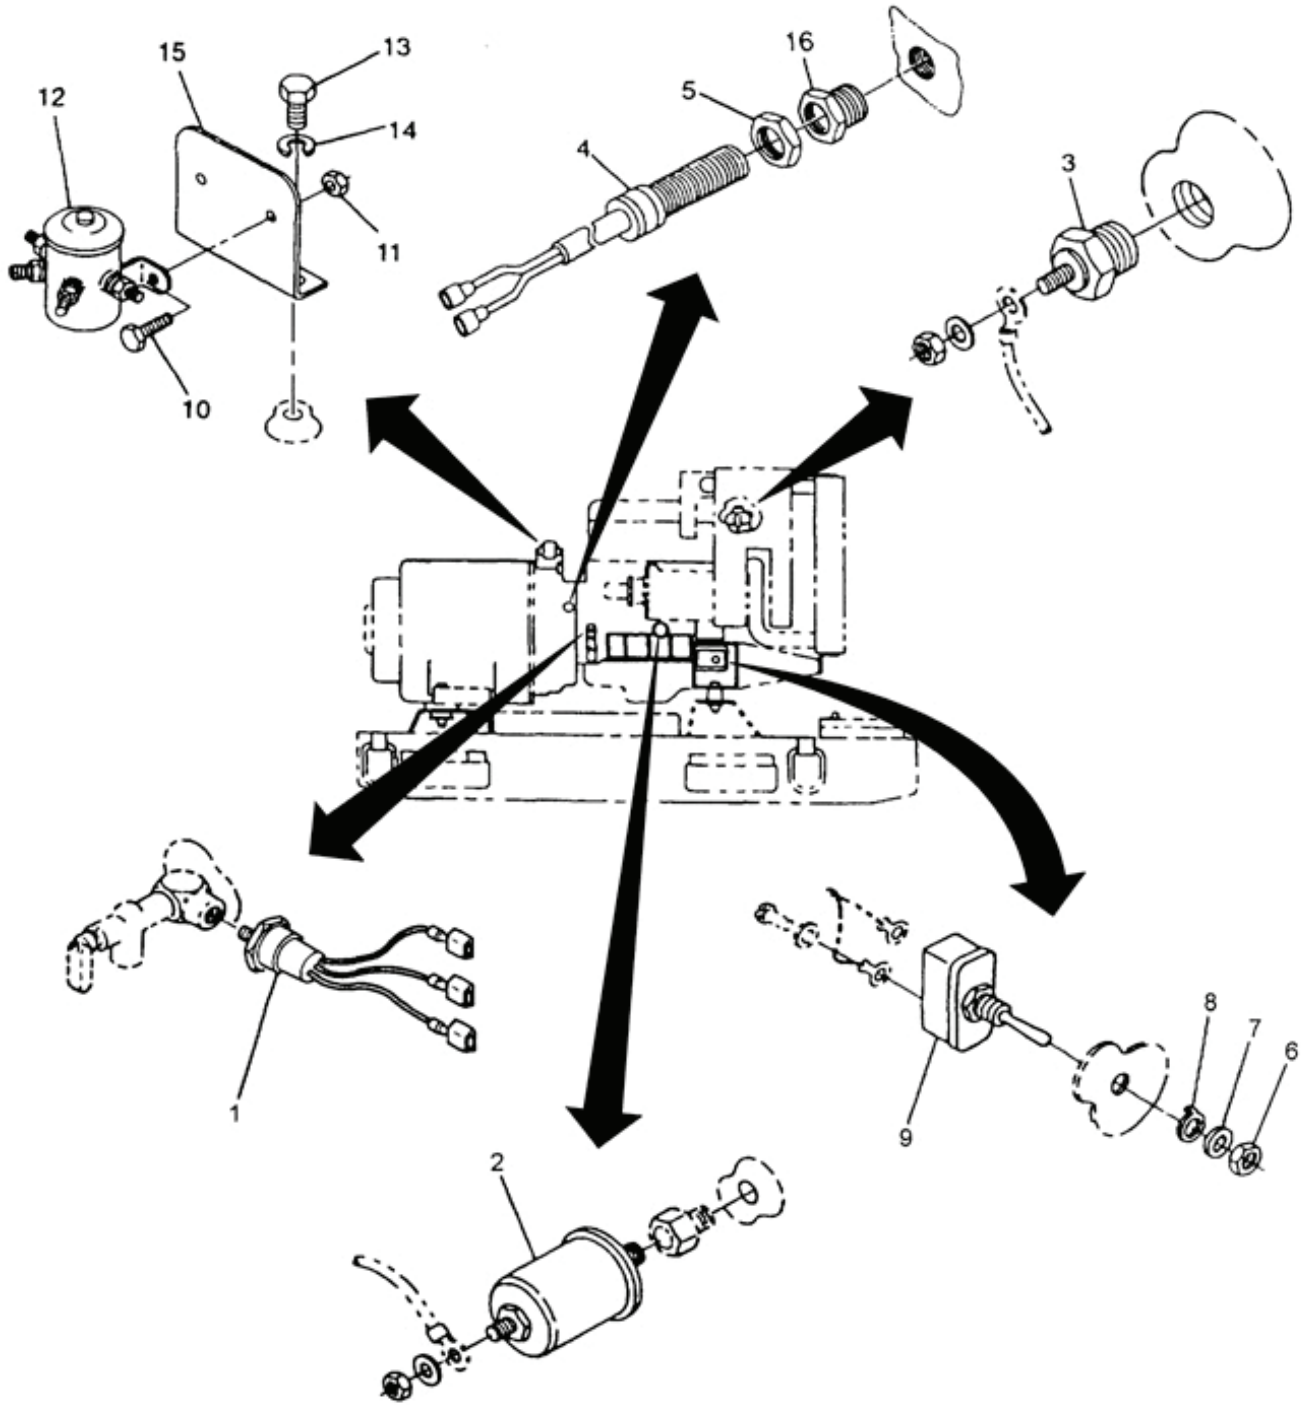
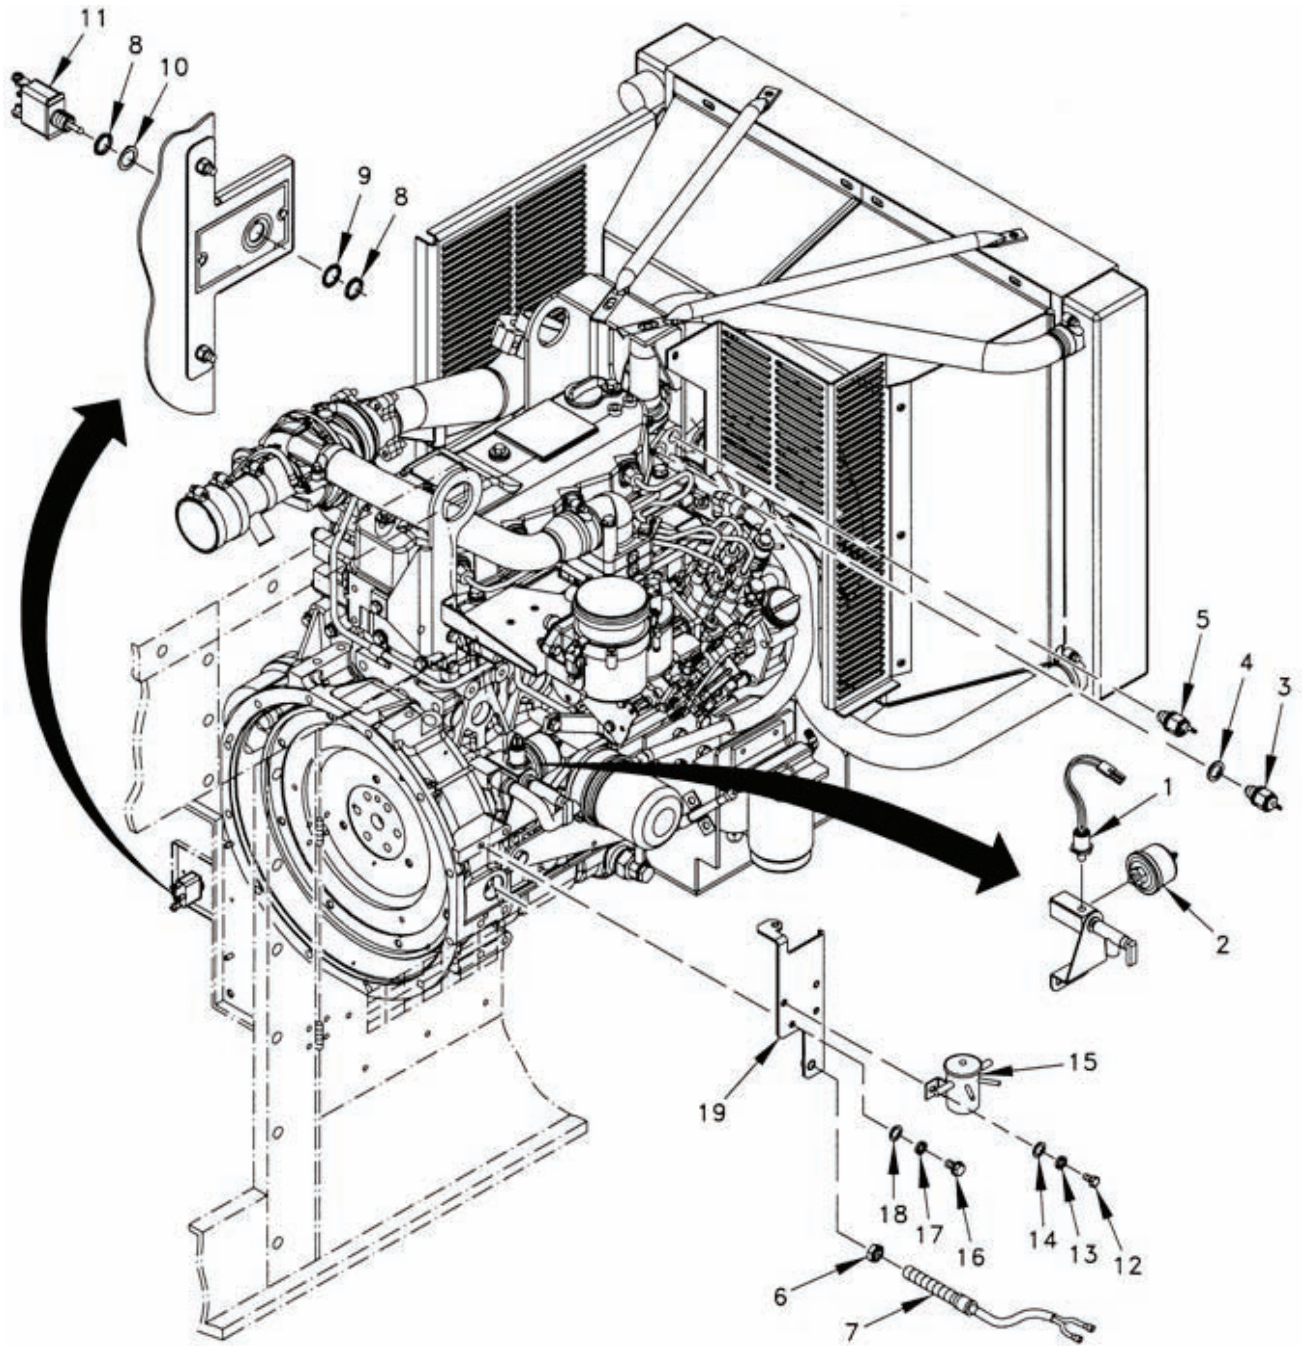

Figure 2-35. Right Side Engine Switches and Senders – MEP-804A/MEP-814A.
Figure 2-36. Right Side Engine Switches and Senders – MEP-804B/MEP-814B.
- c. Tag and disconnect electrical leads from low oil pressure switch (1, Figure 2-35/Figure 2-36).
- c. Tag and disconnect low oil pressure switch (1, Figure 2-35/Figure 2-36) electrical leads.
- d. Unscrew low oil pressure switch (1) from oil sample valve assembly.
- a. Install low oil pressure switch (1, Figure 2-35/Figure 2-36) into oil sample valve assembly.
- c. Disconnect electrical lead to oil pressure sender (2, Figure 2-35/Figure 2-36).
- c. Disconnect oil pressure sender (2, Figure 2-35/Figure 2-36) electrical lead.
- d. Unscrew and remove oil pressure sender (2).
- a. Install oil pressure sender (2, Figure 2-35/Figure 2-36) into engine block.
- c. Disconnect electrical lead from coolant temperature sender (3, Figure 2-35/Figure 2-36).
- (2) Open left side engine access door, open radiator drain valve (3), and drain coolant into suitable container. Close drain valve.
- e. Open right side engine access door and disconnect coolant temperature sender (3, Figure 2-35/Figure 2-36) electrical lead.
- f. Unscrew temperature sender (3) from engine head.